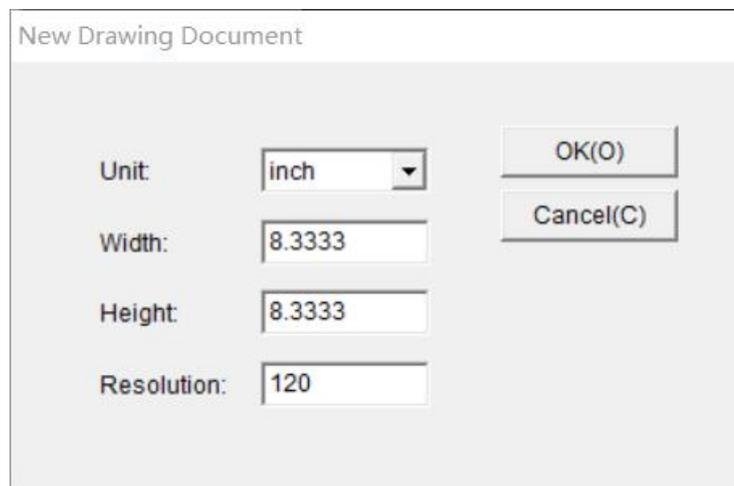

Figure 4-3
3. Resolution: The resolution is relative to the inch in the measurement unit. As shown in Figure 4-3, it means that 1 inch contains "120" pixels. In other words, when the unit is inches, the height and width of the current new document are both "8.3333×120" pixels. (1 inch equals 2.54 cm)